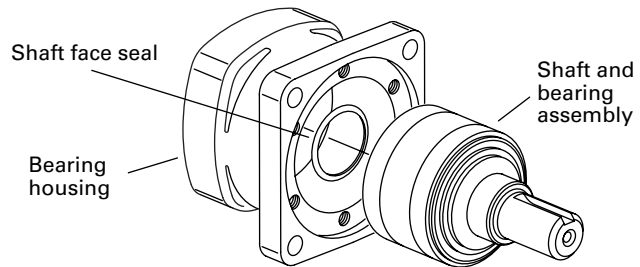

Figure 10
18. Remove shaft and bearing assembly. You may need a press to remove shaft and bearing assembly (see Figure 10)
19. Remove shaft face seal from bore of bearing housing (see Figure 10). Do not damage bore of bearing housing.